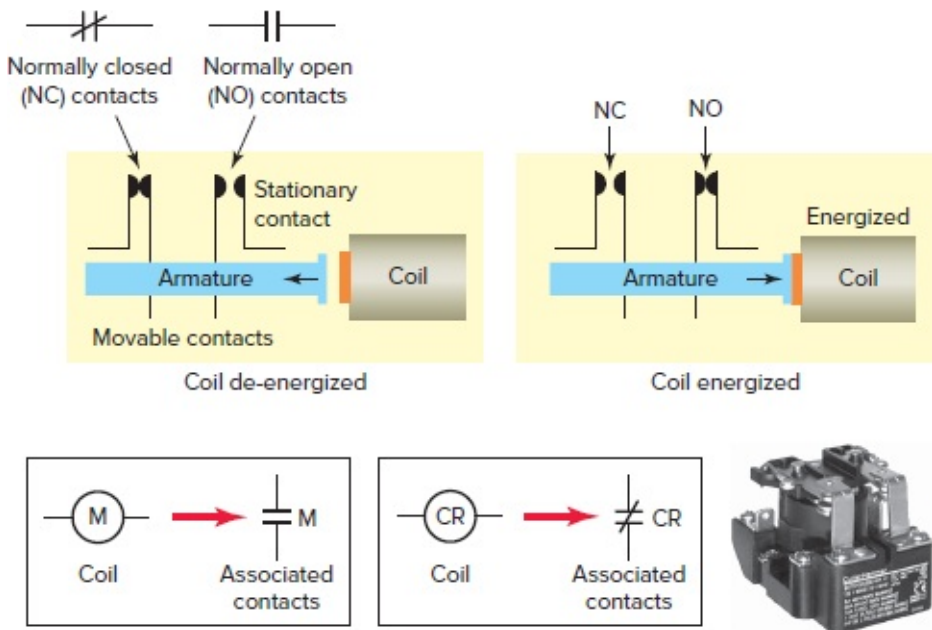

Figure 7-2 Relay coil and contacts.
A relay will usually have only one coil, but it may have any number of different contacts. Electromechanical relays contain both stationary and moving contacts, as illustrated in Figure 7-2. The moving contacts are attached to the armature. Contacts are referred to as **normally open** (NO) and **normally closed** (NC). When the coil is energized, it produces an electromagnetic field. Action of this field, in turn, causes the armature to move, closing the NO contacts and opening the NC contacts. The distance that the plunger moves is generally short—about 1/4 inch or less. A letter is used in most diagrams to designate the coil. The letter M frequently indicates a motor starter, while CR is used for control relays. The associated contacts will have the same identifying letters.